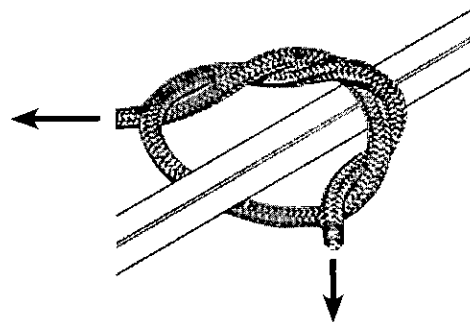

Figure 5
8. a. Tie one end of the provided 9' rope to the link welded onto the stabilizer bar, just in front of the tree hugger. **Be sure your double knot is secure. SEE FIGURE 5.**
b. Tie one end of each of the provided 15' ropes to the square tube side rails and tree blade frame, just in front of the welded on tree blade. **Be sure your double knots are secure. SEE FIGURE 5.**